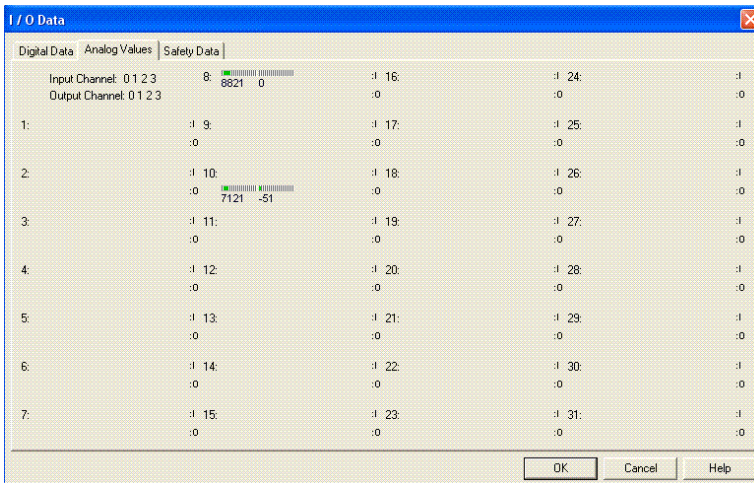

Fig 9: In the example the slaves with address 8 and 10 are analog slaves are a 2-channel input slave (address 8) and a 2-channel output slave (address 10).
The data of the existing analog slaves in the net which are working according to the slave profiles S-7.3.x are indicated here. For digital slaves the display remains empty (Fig. 9).
**Example:** In fig. 9 an analog input module (slave 8) and an analog output module (slave 10) with two channels each are attached. In both cases the value "0" corresponds to 0 V, the value 10.000 to a voltage of 10 V. The modules have a resolution of 1 mV. The displayed values results: